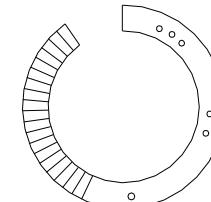

Fig. 5
3. Turn the temperature control dial until you get to the desired temperature setting. (Fig. 5)